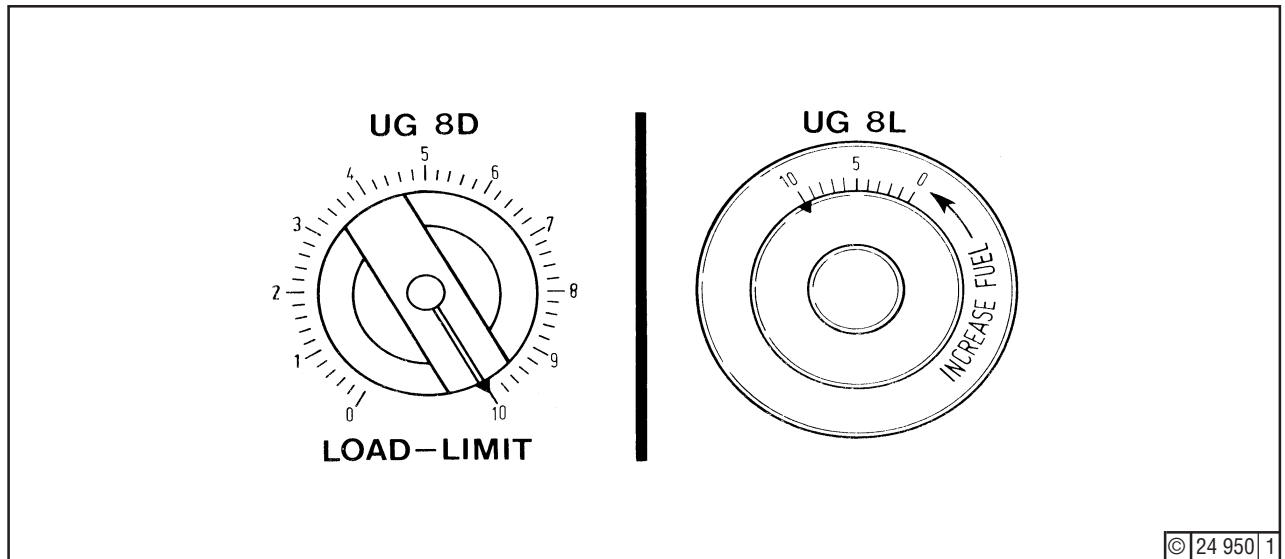
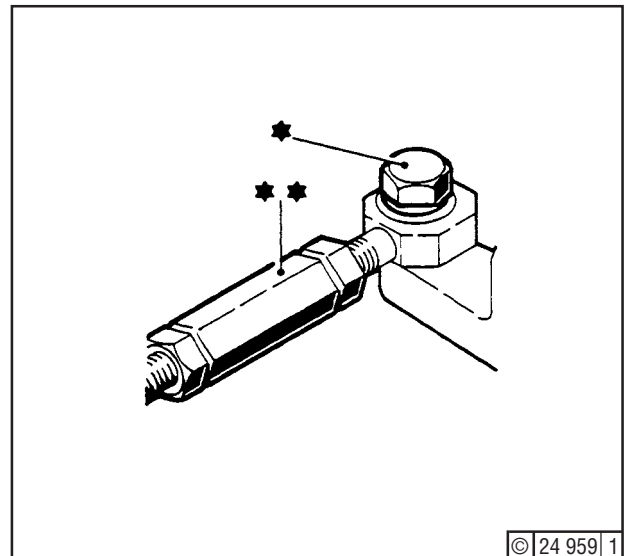

Fig. 15
Fig. 16
10. Turn governor to scale graduation 10 - Fig. 15 - and secure link C1(Fig. 16) to point A5 (*). Adjust length of link (**) at point C5 to ensure freedom from internal stressing. Remove tool from all injection pumps (see Fig. 7).